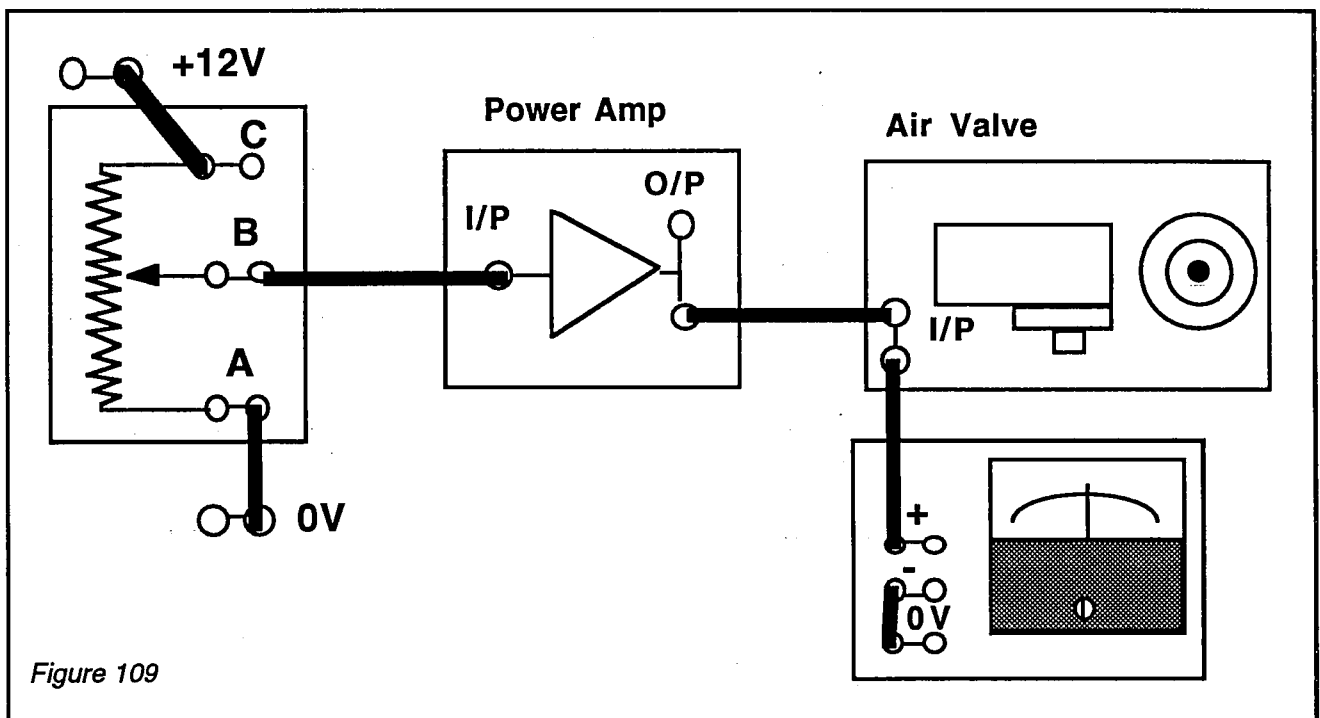

Figure 109
- Connect the circuit as shown in Fig 109, set the resistor control for zero output voltage (fully counter clockwise) and set the pump "Flow/Pressure" control to "Pressure".